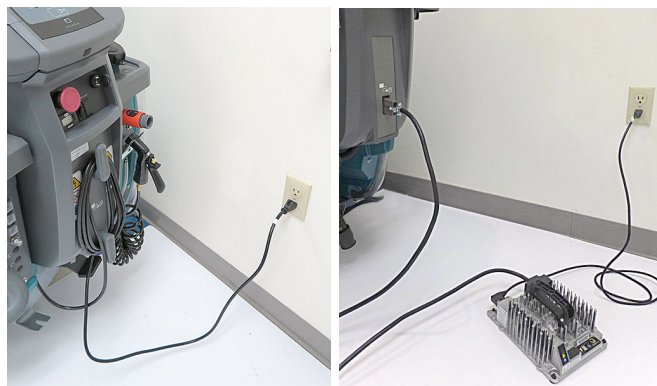

FIG. 105
13. Charge batteries (Figure 105). See BATTERIES.